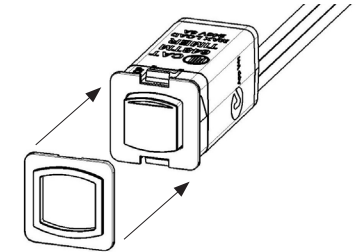

Figure 4: Front Cover Installation
- Select the appropriately coloured front cover from the enclosed assortment and snap onto the front of the timer as shown in figure 4.